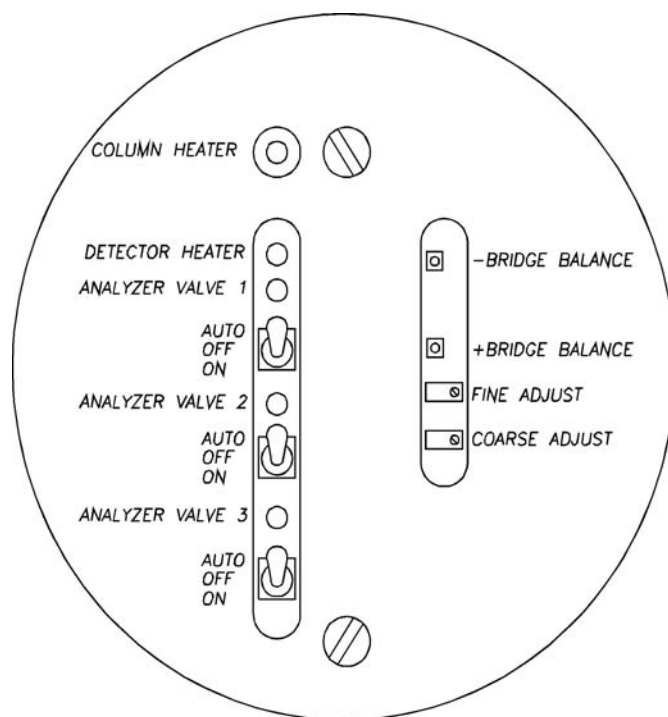

Figure 5-4. Analyzer Detector Bridge Balance Locations
3. Refer to Figure 5-4, and attach the negative lead of a digital voltmeter to the black test point (BRIDGE BALANCE). Attach the positive lead of the digital voltmeter to the red test point (+BRIDGE BALANCE).